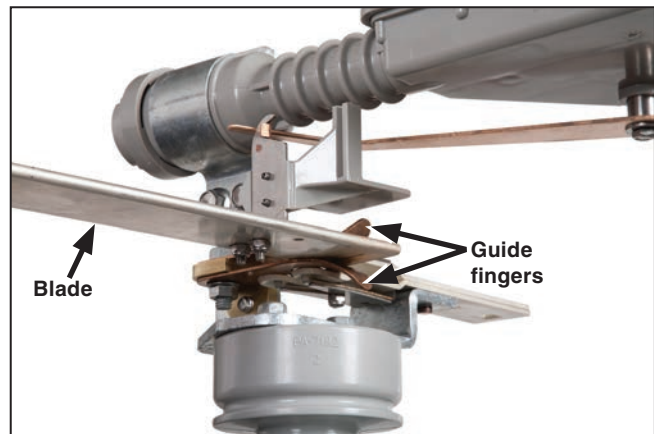

Figure 27. During closing, make sure the blade enters the guide fingers on center.
- (b) The blade should move into the jaw contact guide fingers on center. See Figure 27.